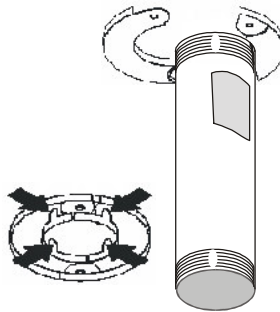

Figure 24: Installing the Finishing Ring
7. Install the finishing ring on the **SV-CL** Column below the ceiling tile. If it is necessary, bend the four tabs on the ring inward to secure the ring to the **SV-CL** column (see Figure 24).